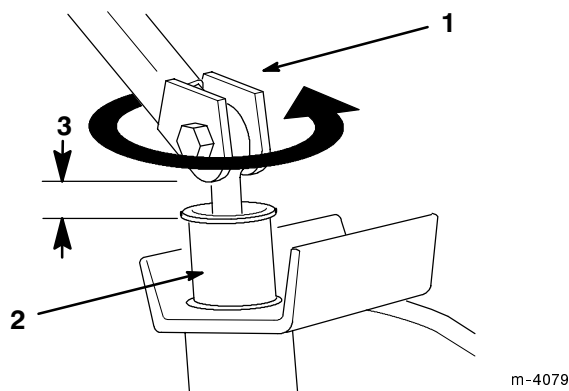

Figure 5
9. Thread the clamp levers into the clamp bases until they are approximately 1/4 in. (0.6 cm) from the rubber springs (Fig. 5)